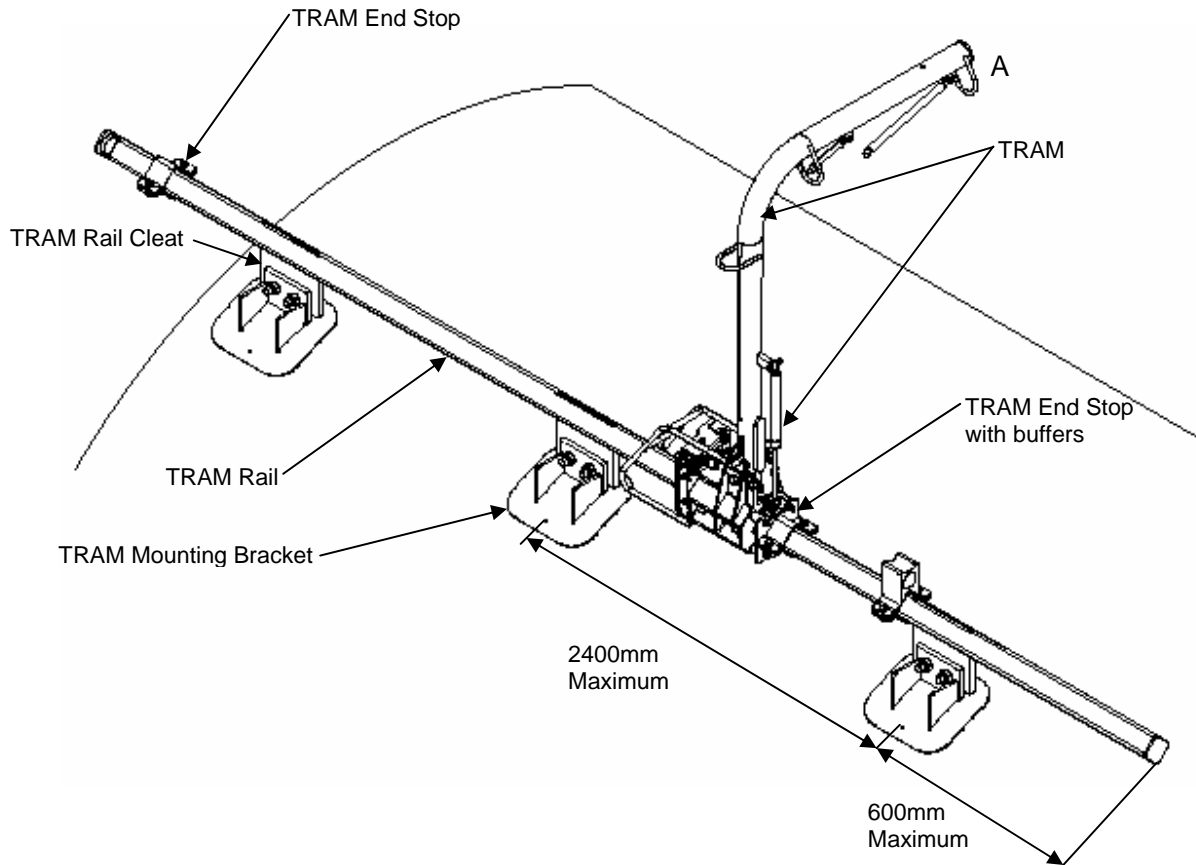

Figure 5: Parts of the TRAM System and Mounting Bracket positioning limits.
This system has been designed and tested to meet the requirements of EN795:1997 Class D. This standard requires the TRAM system to withstand a static load of 10kN vertically down at the extremity of the TRAM arm (location A, figure 5).
- b) The rail location must also fulfil the clearance requirements shown below (Figure 5) to permit operation of the TRAM Safety System